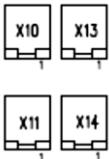

Fig. 29
6. Select the two free connections on the board to connect the new batteries (X10 and X13 or X11 and X14, Fig. 29).